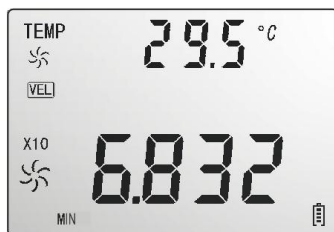

Figure 5
(2) When measuring minimum value of wind velocity, a "MIN" will be shown on the upper LCD screen, as shown in figure 5: